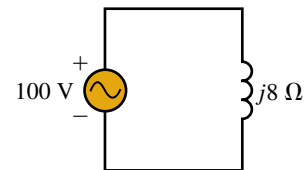

FIGURE 17-32
- For the circuit of Figure 17-32, determine the active and reactive power to the inductor.
- If the inductor of Figure 17-32 is replaced by a $40\text{-}\mu\text{F}$ capacitor and source frequency is 60 Hz, what is Q_C ?